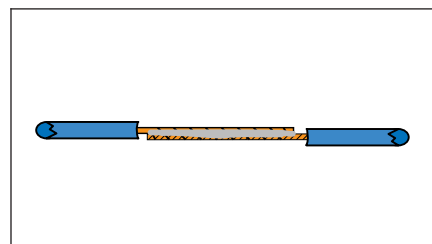

Figure 4 Solder Connection
7. Select a soldering iron tip appropriate to soldering the overlap splice. Establish a heat bridge in the center of the overlapped wires and add sufficient solder to achieve a complete solder fillet between the full length of the overlapped wires. The completed solder connection may have a slightly convex fillet for the length of the connection, as long as the individual wire wraps used to secure the spliced wires are clearly visible in the solder. (See Figure 4.)